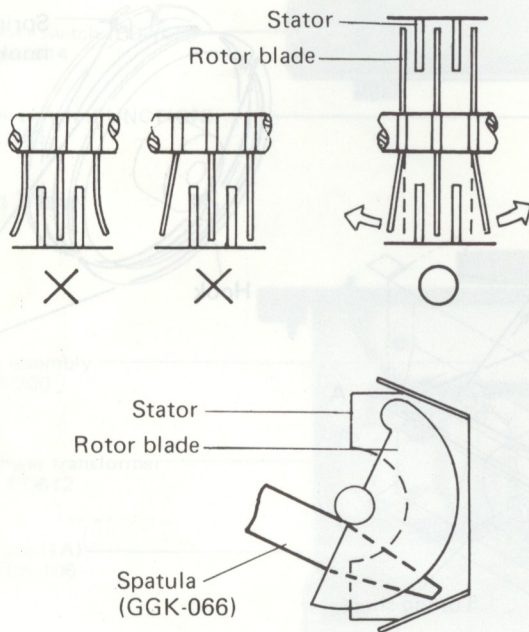

Fig. 8-1 Adjustment of tuning capacitor
- The tuning coils in the FM front end do not have an adjusting core. Consequently, tracking adjustments at 90MHz are performed by regulating the gap between rotor and stator of the tuning capacitors (VC_1 , VC_3 and VC_5). The expression "adjust VC (VC_1 , VC_3 , VC_5) found in the text means that the two outer rotor blades of each of these tuning capacitors are to be extended outwards with spatula (Part No. G GK-066) as shown in Fig. 8-1.